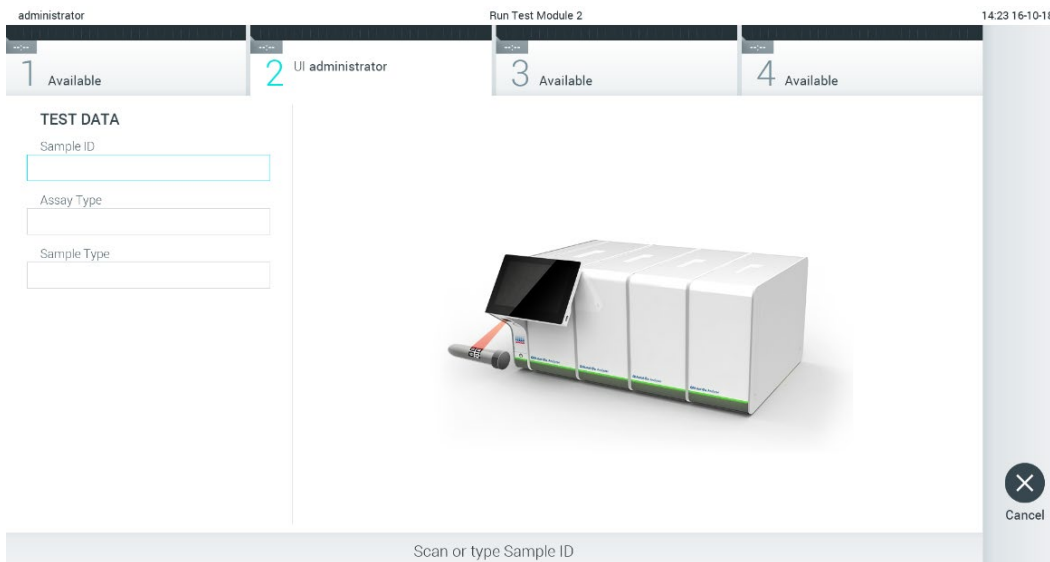

Figure 23. Scanning the sample ID bar code.
**Note:** If External Control (EC) is enabled and an EC test is due to be performed, a reminder is shown to run the test with an EC sample. Refer to Section 8 for further details.
2. When prompted, scan the sample ID bar code using the bar code reader that is integrated into the Operational Module (Figure 23).